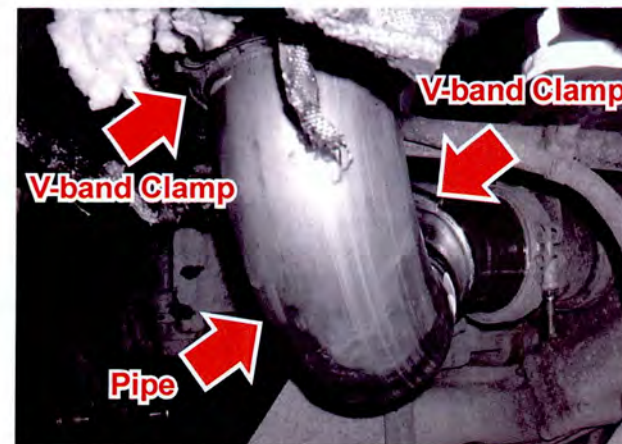

Figure 7
9. Install two exhaust gaskets A2350835-001 (one on each end of pipe A2350887-002). Install the pipe and gasket assembly onto the turbocharger outlet housing and bellows pipe flanges. Tighten the V-band clamps to 12 ft-lb (16 N·m) of torque (see Figure 7).